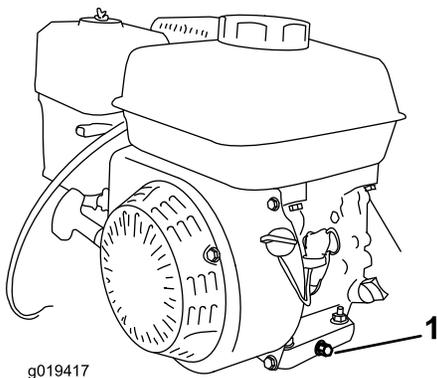

Figure 18
5. Remove the drain plug (Figure 18).
4. Remove the gearcase plug (Figure 18).